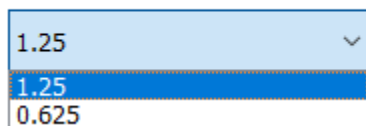

Fig.11 Charge Ref Voltage pull-down menu
The Fire Ref Voltage (V) pull down menu (Fig.11) allows selection between the default value (1.25) or $\frac{1}{2}$ of the reference voltage (0.625) in order to approximately double the Charge Time per the equation in the datasheet.